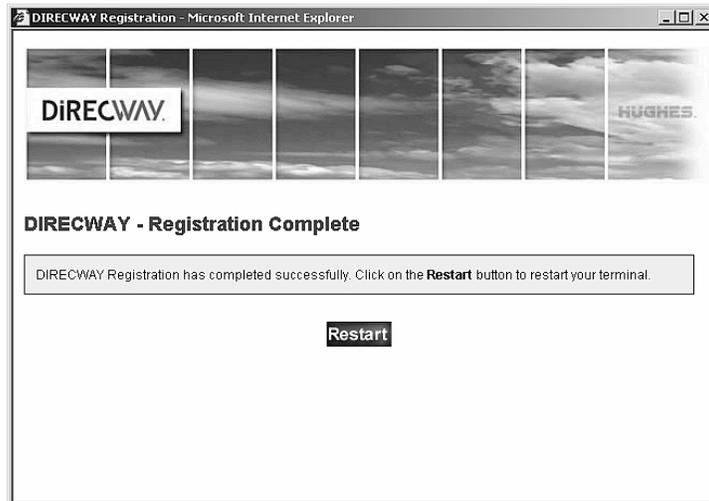

Figure 38: Restarting the remote terminal
35. Click **Restart** on the Registration Complete screen shown in Figure 38 to restart the remote terminal.